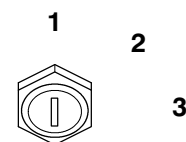

Figure 13
3. Turn the ignition key to “OFF” (Fig. 13).